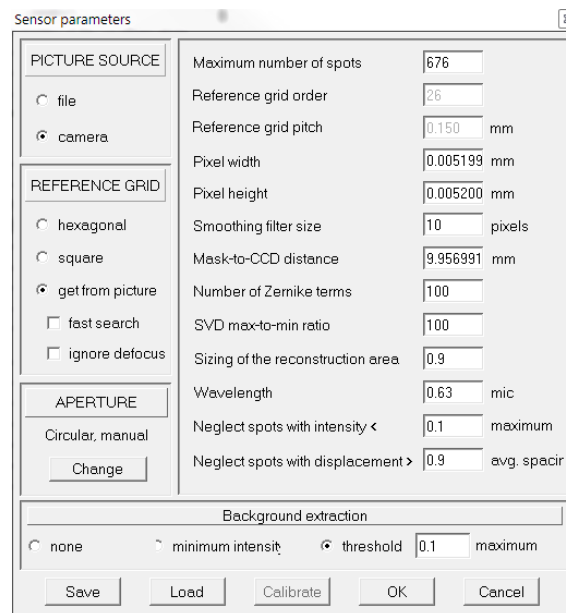

Figure 4: *Sensor parameters window*
5. Load the wavefront sensor calibration data. For this purpose go to the menu “Options ⇒ Parameters”. In the dialog box “Sensor parameters” press “Load” button and load the calibration file `calibration.txt` from the `fsurfer` directory of the CD. Press “OK” to complete. See Fig. 4 for illustration.
The wavefront sensor settings are accessible through menu “Options → Parameters” (Figure 4). Some of the settings (like pixel size, microlens array parameters and the actual distance from the MLA to the camera chip) are obtained during the calibration procedure and should not be changed by the customer². Other settings, like aperture type, measurement mode, *etc.* should be changed to match the measuring situation.